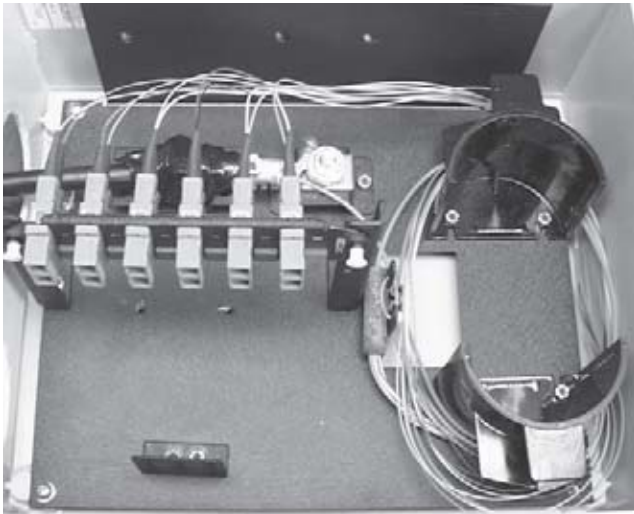

Figure 21
12.5 Route the fiber in the fan-out tubing around the guides and plug connectors into the connector panel (Figure 21). Refer to the previous connector care instructions to avoid damaging the connectors during installation.